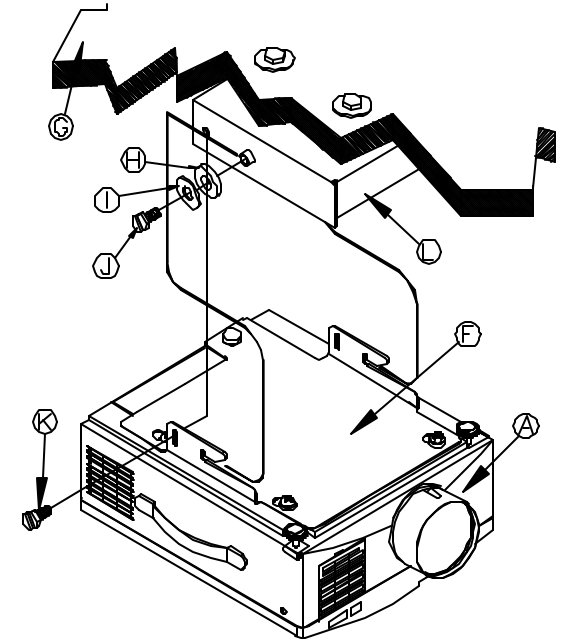

Figure 2
Install the two (2) hinge pin bolts loosely on both sides of the base box. Raise the projector with the mounting bracket attached and slip through the hinge pin slots openings on the bracket into the base box. Install the two (2) angle locking bolts. Adjust the angle, lock it, and then tighten the hinge pin bolts. See Figure 2